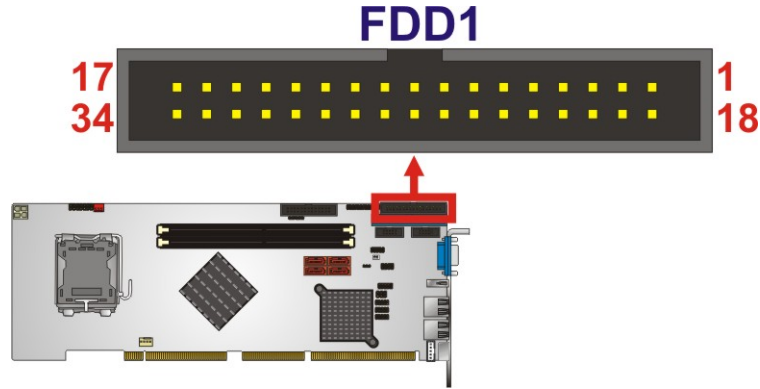

Figure 3-9: Floppy Drive Connector Location
- CN Location:** See **Figure 3-9**